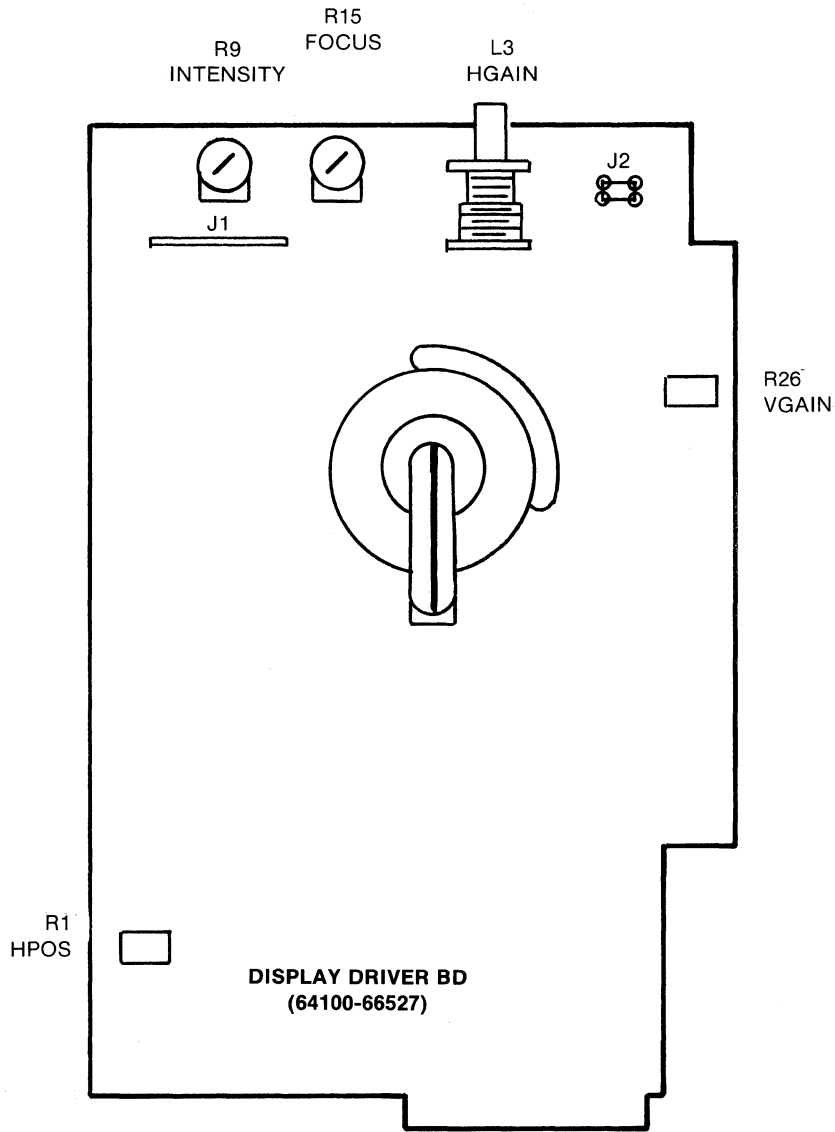

Figure 5-1. Location of Display Driver Adjustments
- b. Set the system control source switches (see figure 5-1), located on the back panel, to the Performance Verification position; top part of both rocker switches should be pressed in.